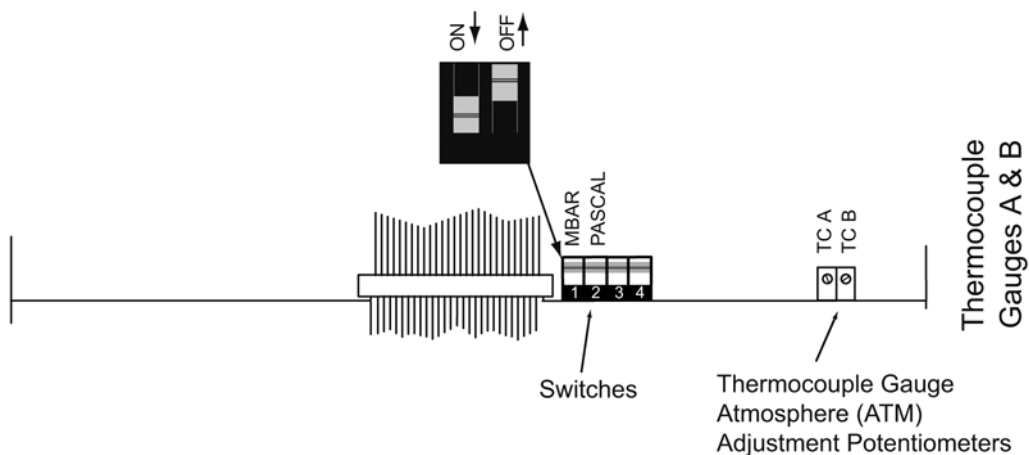

Figure 6-1 Thermocouple Module - Top View (Controller Cover Removed)
4. Locate the mbar and pascal units switches. See Figure 6-1.